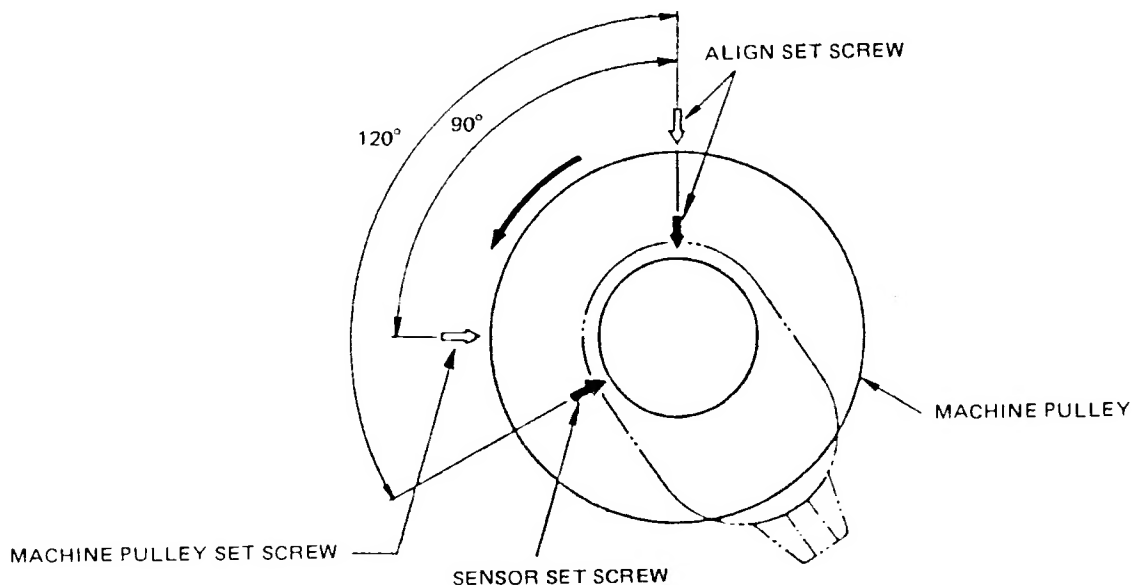

Fig. 67
2. Position sensor on hub of machine pulley so that its second set screw (set screw which appears immediately after the first set screw when sensor is rotated over toward the operator) is aligned with the second set screw of the machine pulley and firmly tighten the two set screws. (See Fig. 67)